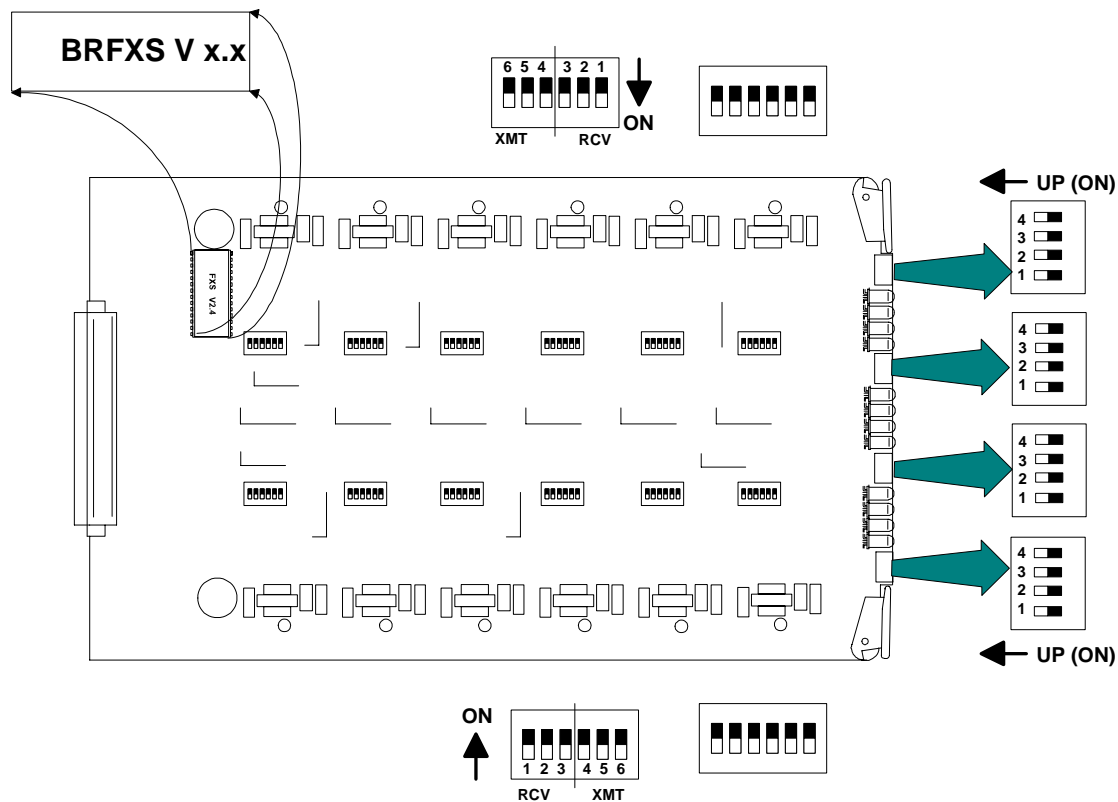

Figure 9-3: BRFXS/DPO Transmit and Receive Level Options
The transmit and receive levels for each BRFXS/DPO voice frequency channel can be set between 0 and -9 dB using twelve 6-position DIP switches (CH1 - CH12) on top of the circuit board card (see Figure 9-3). Each analog channel uses a bank of six DIP switches, with three for transmit and three for receive. Operation of each set of three switches in additive. For example, setting switch 1 (-2 dB) and switch 2 (-3 dB) to OFF for any given channel selects a receive loss of -5 dB. The default setting for the transmit level is -3 dB; for the receive level it is -6 dB. The default settings are appropriate for most applications.
3. Set different transmit and receive gain or loss levels (see Figure 9-3 and Table 9-1).
FXO or DPT termination. Also on the card, each individual channel has a two position switch for the selection of ground start or loop start (see Figure 9-3) and a 6-section DIP switch to control the line attenuation (see *Channel Attenuation Options*).
The FXO/DPT card can be configured for use as either an FXO or DPT interface card. Further, FXO offers both ground start (GS) and loop start (LS) modes of operation. These options require the setting of one switch per channel (12 per card) and one 4-position Dual Inline Package (DIP) switch per card (see Table 10-1, and Figure 9-3). Note that in the table, a 1 indicates the switch is on, while a 0 indicates the switch is off. The slide switch on the 12-channel analog card for each channel indicates whether that channel is set to GS or LS mode. The DIP switch determines whether the card will use FXO or DPT termination.